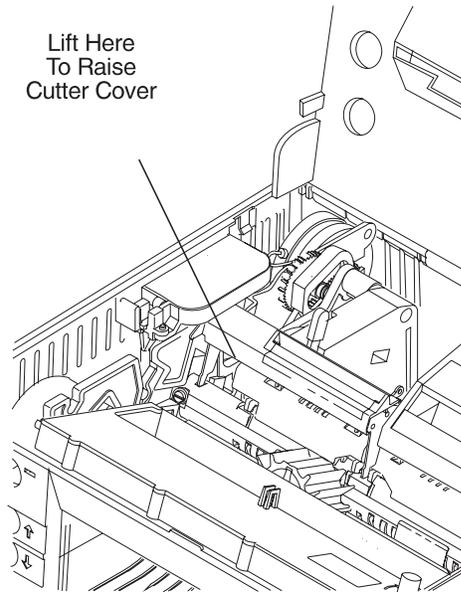

Figure 6-8. Paper Cutter
- Open the paper cutter cover by pulling up on the front of it. See Figure 6-8.
- See Figure 6-8.
The paper cutter gears, (1) in Figure 6-8 on page 6-14, should move smoothly and the paper cutter blades should completely retract.